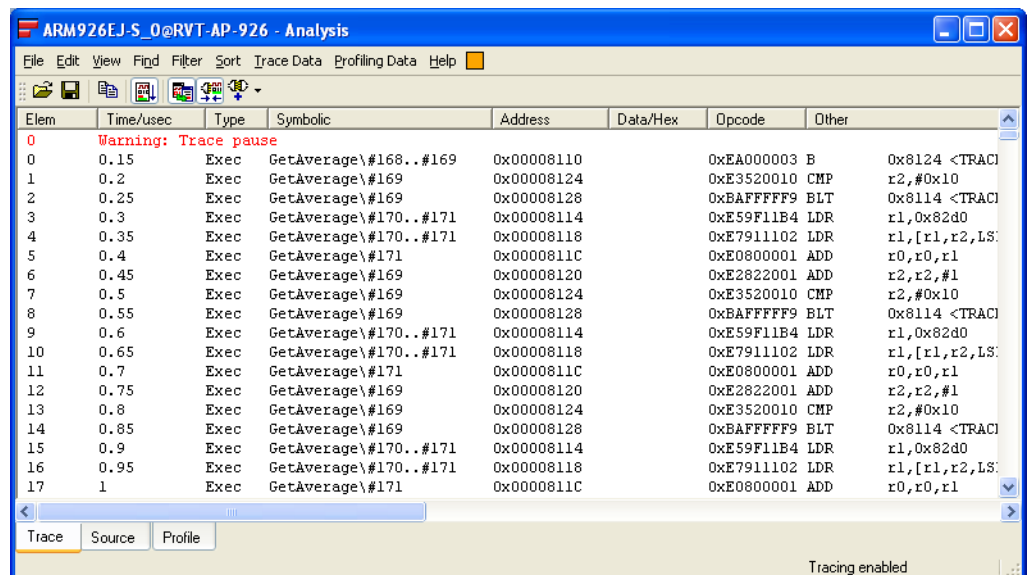

Figure 10-68 Trace captured with a trigger
- Enable tracing again. When the trigger is activated, the captured trace is updated in the **Trace** tab of the Analysis window. Figure 10-68 shows an example: